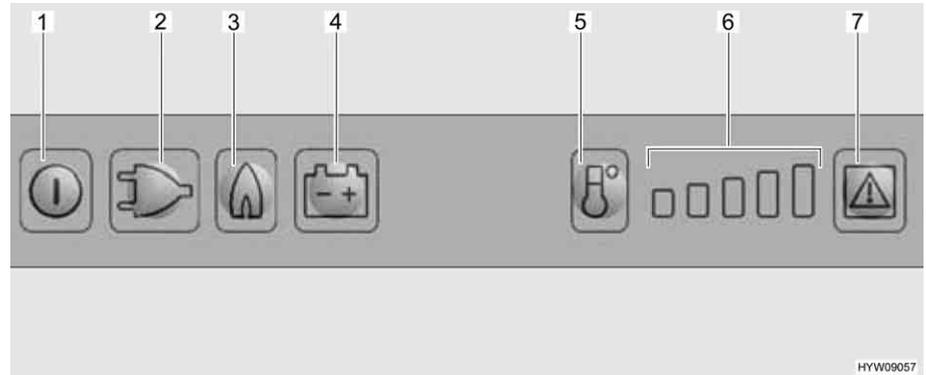

Fig. 194 Operating controls for the refrigerator
- Press and hold the On/Off button (Fig. 194, 1) for about 2 seconds. The refrigerator switches itself on. The button of the operating mode chosen most recently lights up.
- If necessary, press the button for the operating mode "Gas" (Fig. 194, 3). The button lights up. Gas supply is open. Ignition will take place automatically. A ticking sound can be heard until ignition has been completed successfully.
- Use the temperature range selection button (Fig. 194, 5) to set the refrigerating temperature.
- Press and hold the On/Off button (Fig. 194,1) for about 2 seconds. The refrigerator switches itself on. The button of the operating mode chosen most recently lights up.
- If necessary, press the button for the operating mode "230 V" (Fig. 194,2). The button lights up.
- Use the temperature range selection button (Fig. 194,5) to set the refrigerating temperature.
- If necessary, press the button for the operating mode "12 V" (Fig. 194,4). The button lights up.